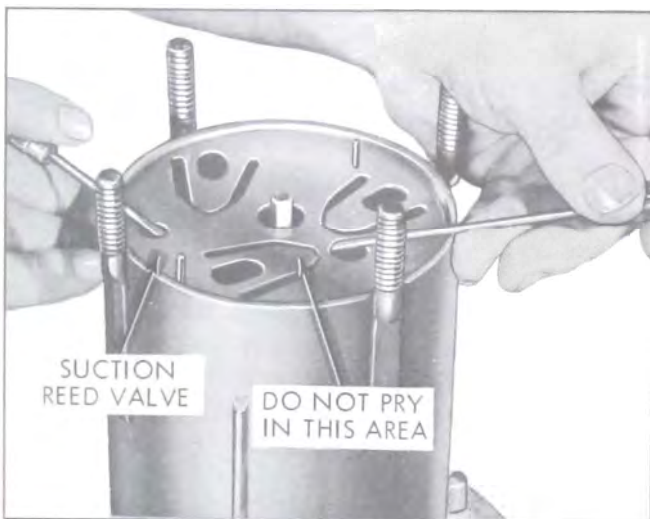

Figure 11-57—Removing Rear Suction Reed
17. If rear suction reed valve didn't come out with valve plate, carefully remove reed as shown with two small screwdrivers. See Figure 11-57. Replace reed valve if damaged.